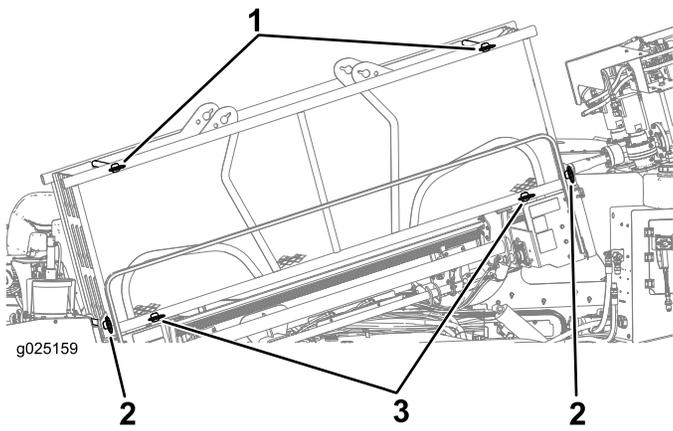

Figure 35
2. Ensure that the upper front and rear pipe-holder pins and the lower front and rear pipe-holder pins are installed (Figure 35).